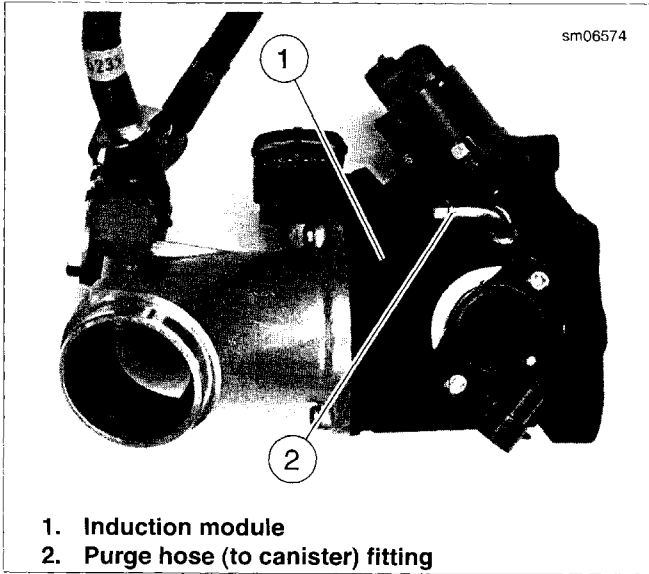

Figure 4-48. Purge Hose Fitting (California Models Only)
16. **California models only:** See Figure 4-48. Install purge hose onto fitting (2) on induction module (1).